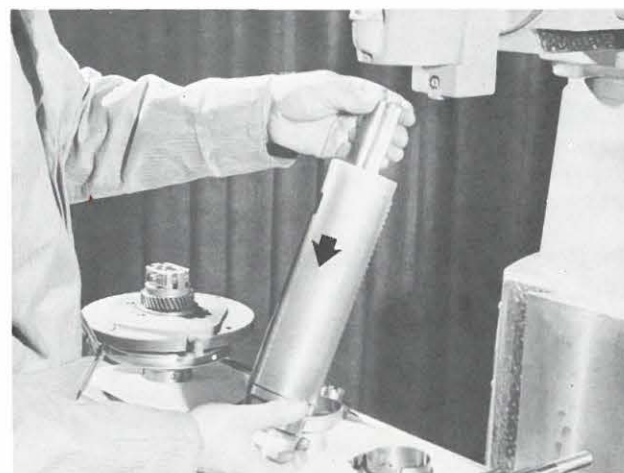

FIGURE 14B
6. Push spindle (132C, page 30) and sleeve up high enough to remove stop key (154B) and lower sleeve assembly down out of head. [See Figure 14B.] Stop key contacts depth adjusting stop (159B).